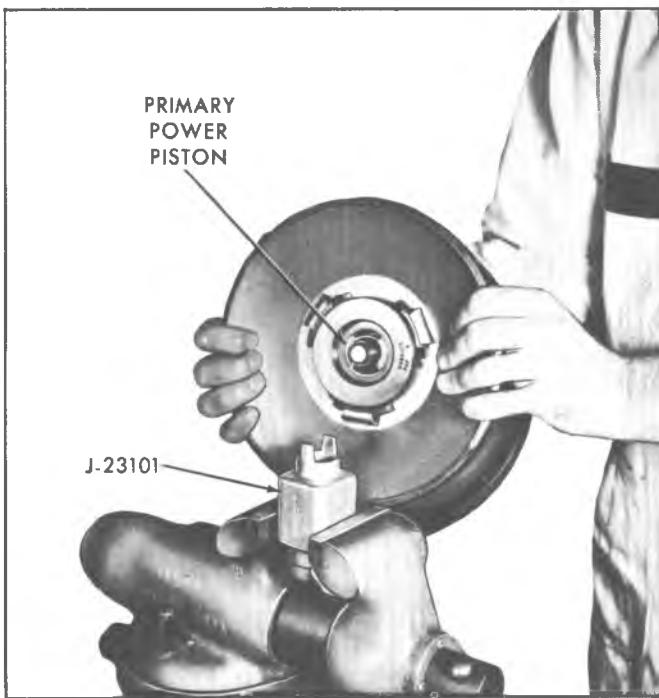

Fig. 8B--Positioning Primary Power Piston in Tool
10. Mount Tool J-23101 in a vise (with small diameter end up). Position the primary power piston so that the two radial slots in the piston fit over the ears (tangs) of the tool (fig. 8B).
12. Mount Tool J-23101 (small diameter end up) in a vise. Position the primary power piston so that the two radial slots in the piston fit over the ears (tangs) of the tool (fig. 8B).